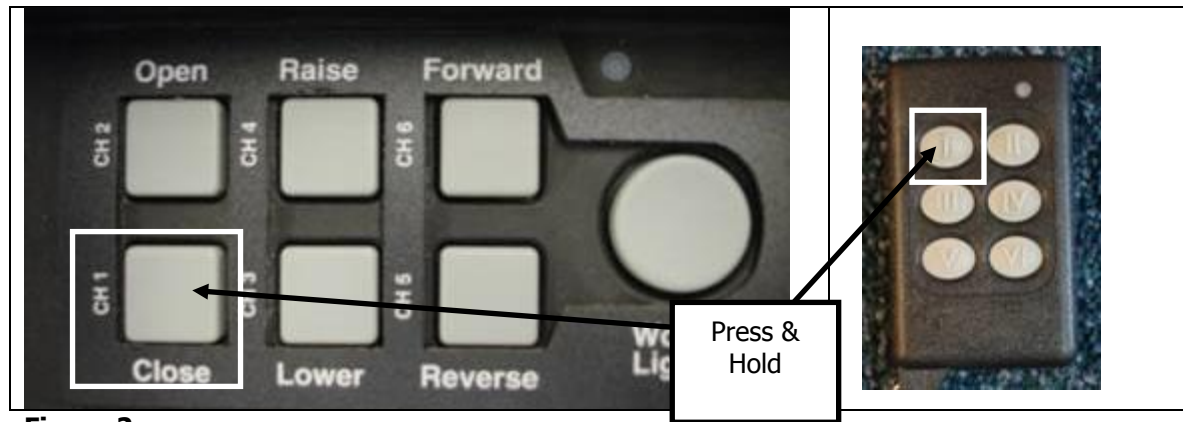

Figure 2
- 2) Always deploy 2-3 feet of tarp before moving the tower. To deploy tarp press & hold button 1 on the control box or the key fob (see Fig. 2), or on non remote systems there will be switch to wind and unwind your tarp. In rare cases with stationary pivot systems with a tall container, you may have to do this before pulling container all the way onto the truck/trailer (see step 4 below).